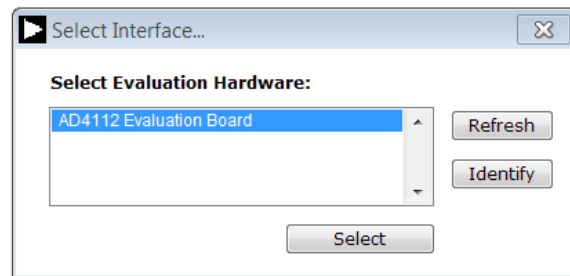
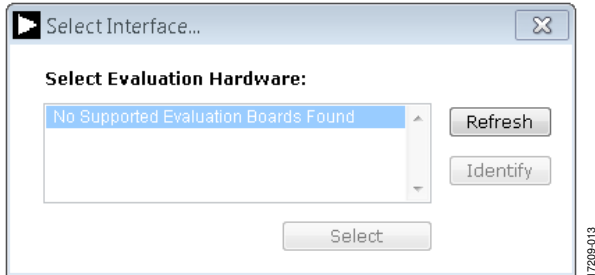

Figure 13. AD4112 Evaluation Board Selection
Figure 14. Evaluation Board Selection, No Board Connected
1. From the **Start** menu, click **Programs > Analog Devices > AD411X Eval+ > AD411X Eval+**. The dialog box shown in Figure 13 appears. Select **AD4112 Evaluation Board** and the main window of the software shown in Figure 16 appears.
- If the EVAL-AD4112SDZ evaluation system is not connected to the USB port via the SDP-B when the software is launched, the software displays the dialog box shown in Figure 14. Connect the evaluation board to the USB port of the PC, wait a few seconds, then click **Refresh**, and the dialog box shown in Figure 13 appears.